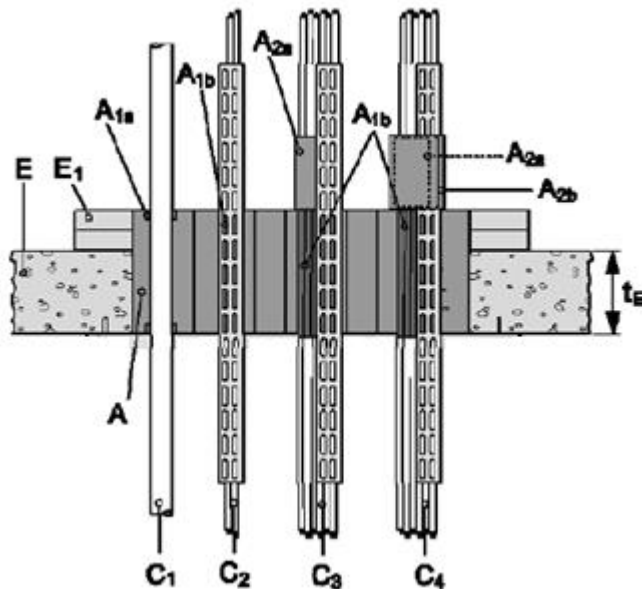

Figure 7 – Details of filler (A1a), and (A1b) 1 x putty (A2a) and 1 x putty (A2b)
Rigid floor, Figure 7, (E)
Table 10 Table of contents for Figure 7